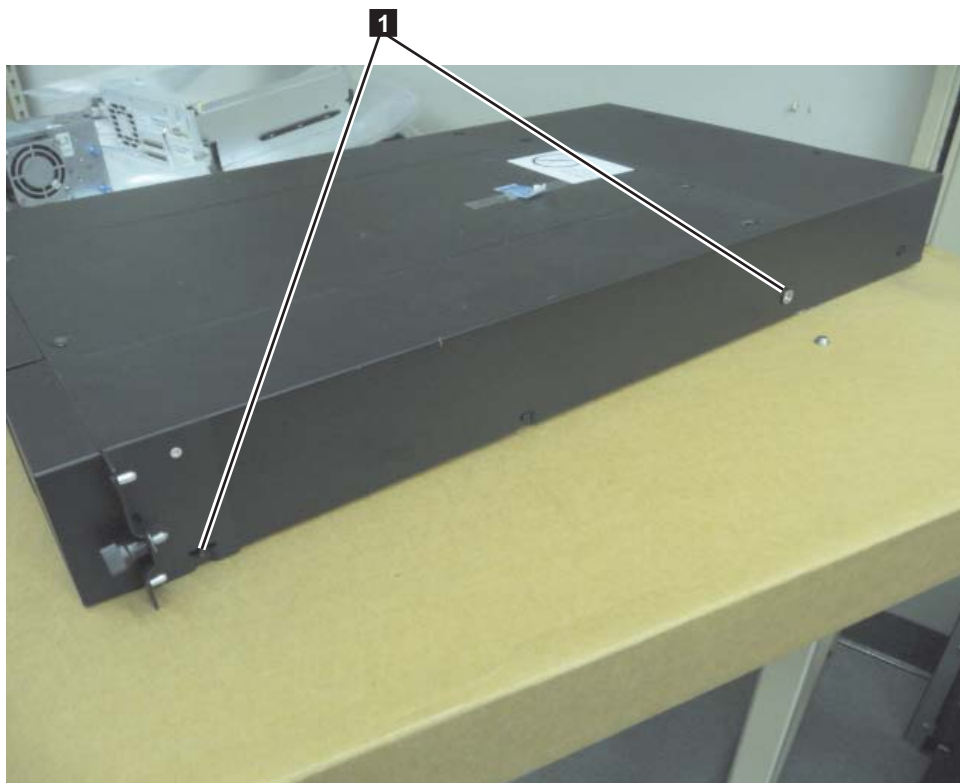

Figure 4-10. 2U library rack anchors and mounting brackets
4. With the Torx wrench included in your shipment, remove the screws (**1**) as shown in Figure 4-10 on page 4-11. Screw locations on the 4U library are similar.
5. Install the library rack anchors (**2**) as shown in Figure 4-10 on each side of your library with the longest counter-sunk screws included in the rack kit.